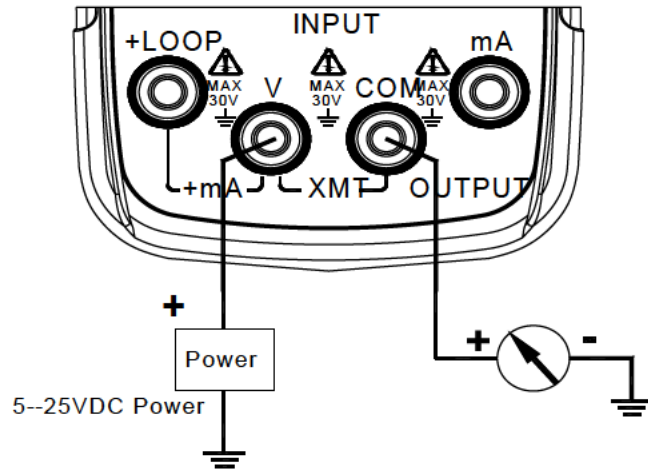

Figure 5-2
- 1) Insert one end of the test lead to the 'XMT' output jack of the Instrument and connect the other end with the input terminal of the user's device as shown in the Figure 5-2: